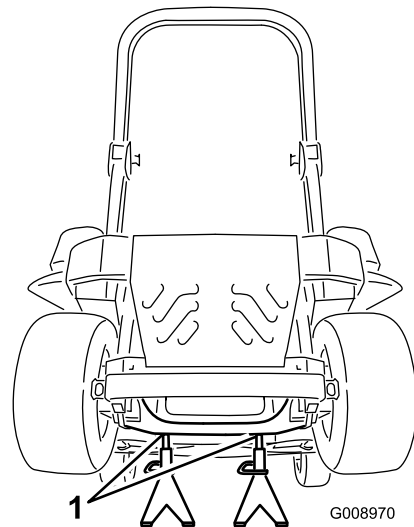

Figure 91
3. Raise the machine and support it with jack stands (Figure 91).
9. Remove the jack stands and lower the machine (Figure 91).